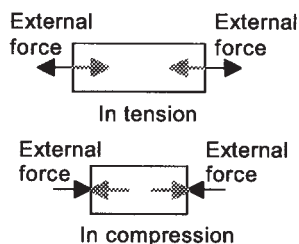

Figure 23.9 Two-force members
- in opposite directions so that a member is subject to either just tension or just compression (Figure 23.9). A member which is in tension is called a *tie*; a member that is in compression is called a *strut*. The convention is adopted of labelling tensile forces by positive signs and compressive forces by negative signs, this being because tensile forces tend to increase length whereas compressive forces decrease length.